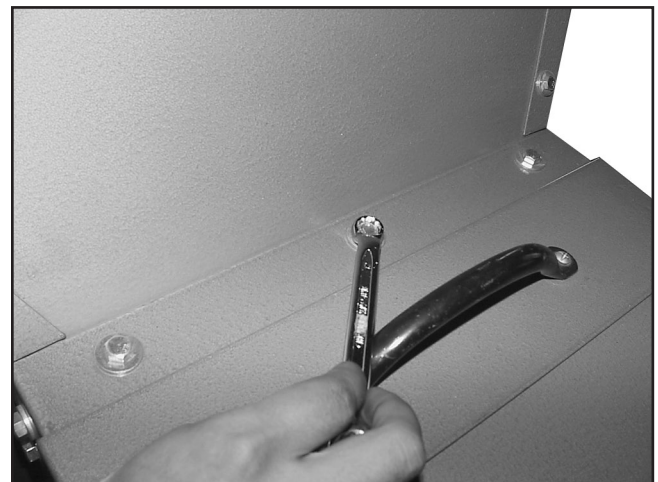

Figure 8. Installing upper skew board.
3. Fasten the upper skew board to the top of the exhaust fan with three $\frac{5}{16}$ "-18 x $\frac{3}{4}$ " hex bolts, six flat washers and three hex nuts, as shown in **Figure 8**.